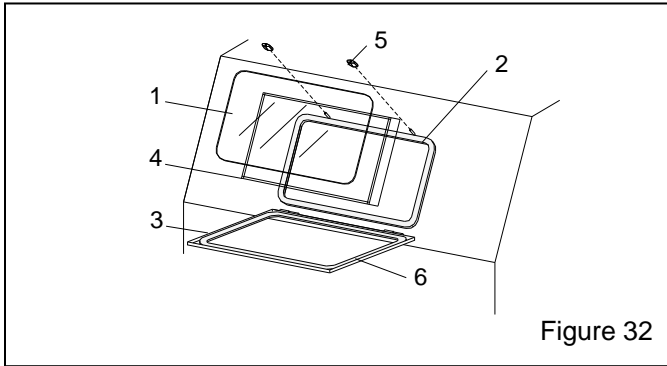

Figure 32
9.3 View Window Assembly, Figure 32